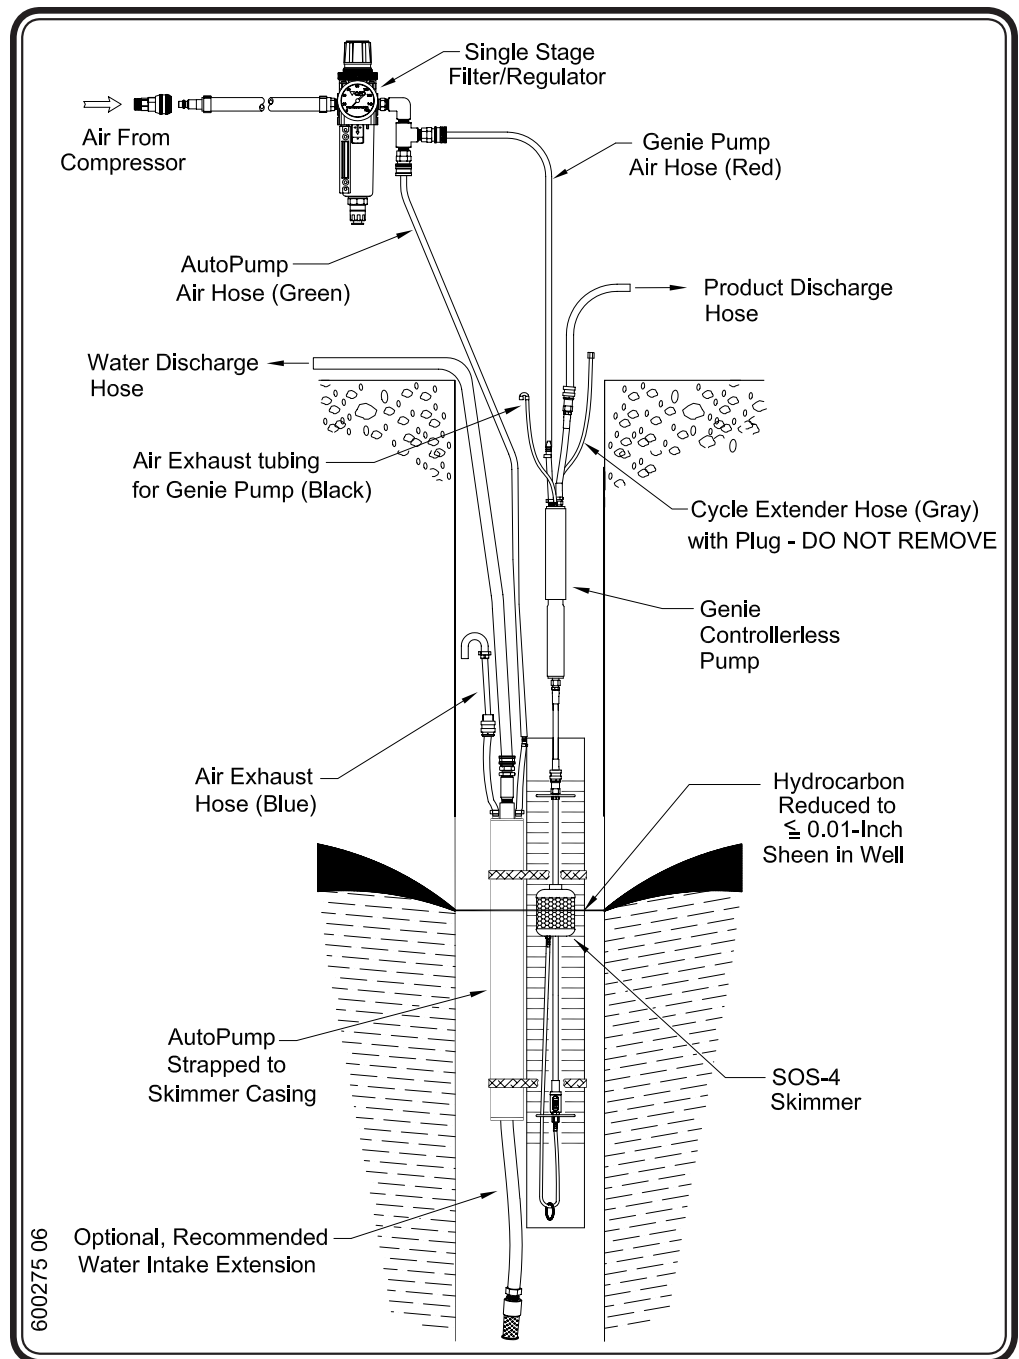

Figure 21 - Genie System with Dual Pump Recovery: (AP-4)
- Attach the skimmer to the male product hose quick connect fitting beneath the Genie pump. (See Figure 21)
- Water is removed with an AutoPump (AP). The skimmer is used to attach the water draw down sensor or it is strapped alongside the bottom loading AutoPump (AP/BL) with the trigger level of AP at 4 inches above the lowest level of the skimmer intake. (See Figure 21)